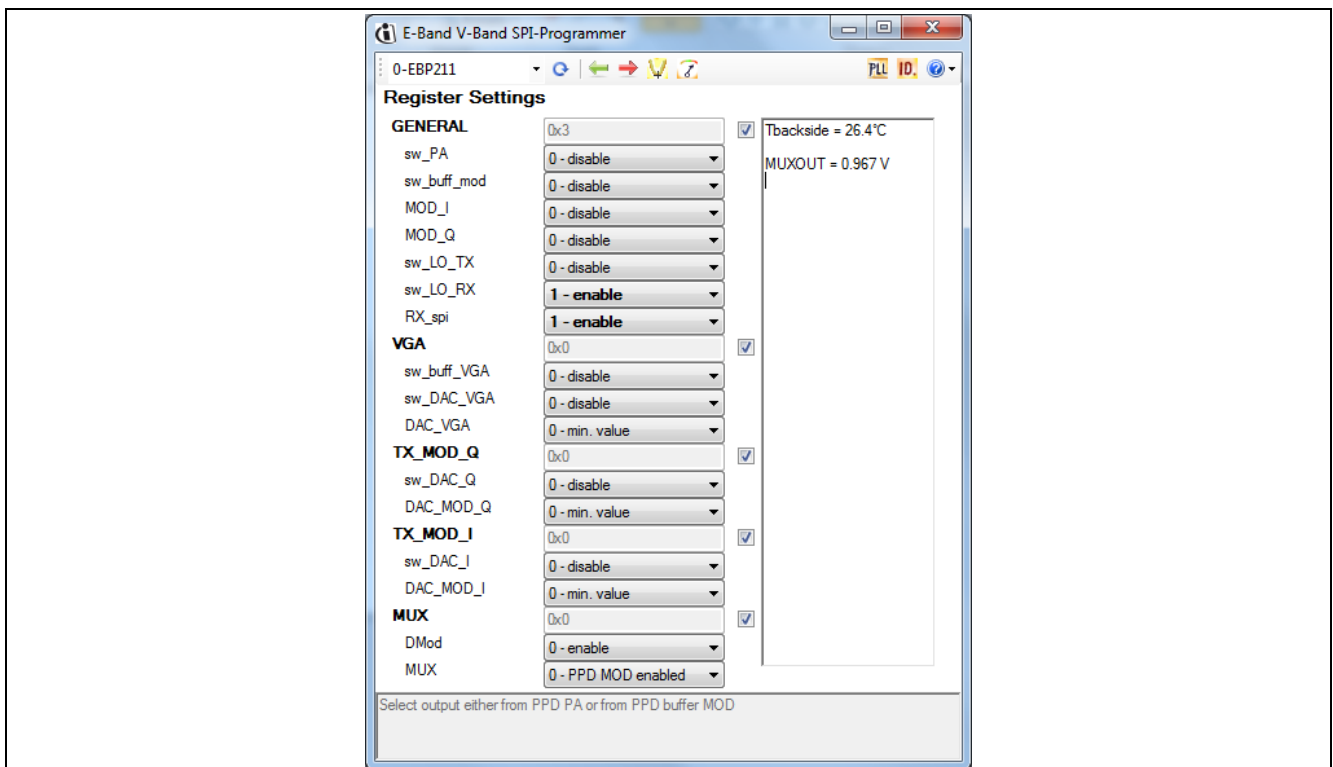

Figure 25 Typical Receiver Settings for the BGT80
- 2) Then in the main window enable the registers as shown in **Figure 25**. The supply current will jump to 415 mA.